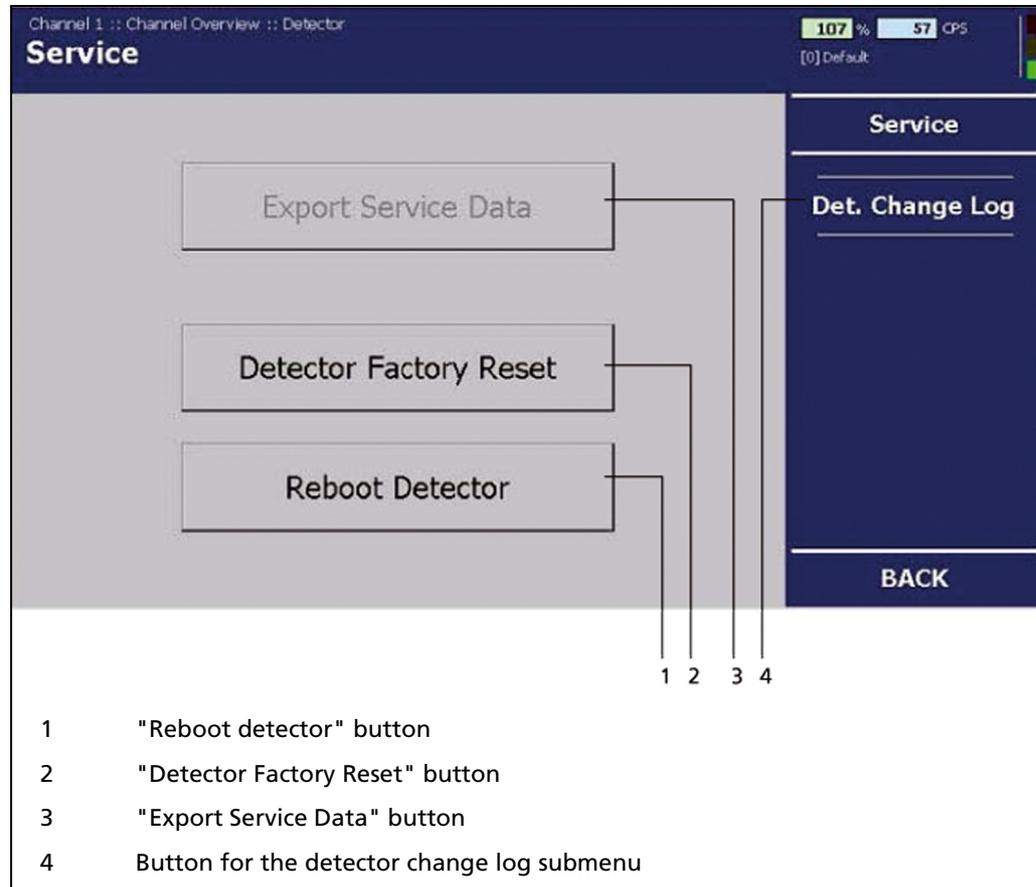

Fig. 31 "Channel Overview" menu, Detector, Service
In the menu "Channel Overview" | Detector, click on <Service> (Fig. 17, pos. 4) to access the "Detector Service" submenu (Fig. 31).
2. Click on <Export Service Data>, (Fig. 31, pos. 3) to save the service data on the USB flash drive.
- ⇒ If the process is complete, the display will switch back to the "Service" submenu (Fig. 31).
1. Click on <Detector Factory Reset> (Fig. 31, pos. 2) if you want to reset the GAMMAcast detector to its factory settings.
1. Click on <Reboot detector>. (Fig. 31, pos. 1) in order to reboot the GAMMAcast detector.